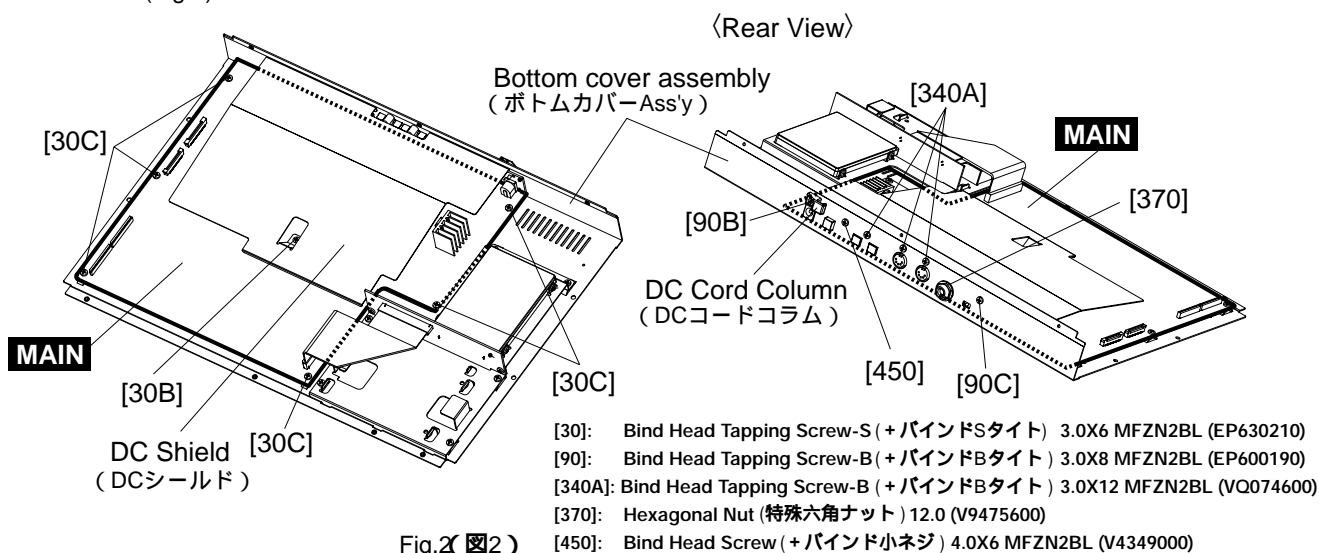

Fig.2(図2)
- 2-2 Remove the screw marked [90B]. The DC cord column can then be removed. (Fig.2)
- 2-3 Remove the screw marked [30B], the screw marked [90C] and the screw marked [450]. The DC shield can then be removed. (Fig.2)
- 2-4 Remove the six (6) screws marked [30C], the three (3) screws marked [340A] and the hexagonal nut marked [370]. The MAIN circuit board can then be removed. (Fig.2)
- 2-2 [90B]のネジ1本を外して、DCコードコラムを外します。(図2)
- 2-3 [30B]のネジ1本と[90C]のネジ1本、[450]のネジ1本を外してDCシールドを外します。(図2)
- 2-4 [30C]のネジ6本と[340A]のネジ3本、[370]の特殊六角ナット1個を外して、MAINシートを外します。(図2)